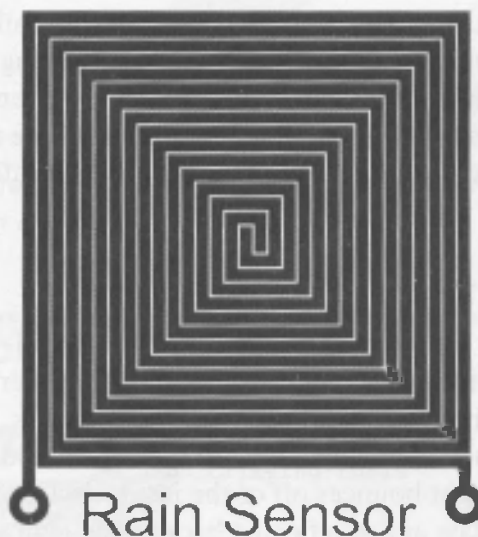

Figure 3-4 Template for small PCB
In order to be able to construct the sensor, you will need to have the capability to etch small PCBs. Use the template supplied in Figure 3-4 as a guide. A variety of methods are available on the market for producing a PCB etch resist. The simplest is using an etch resist pen and a ruler. This should provide satisfactory results. Other methods include a photographic transfer by printing the design onto drafting film, placing it onto a sensitized board, and exposing it to *ultraviolet* (UV) light. A simple system that is very effective is the press-n-peel PCB transfer system. Photocopy or laser print the design onto a sheet of this material. Iron it onto a plain copper board using a household iron, peel the sheet away, and etch the board.